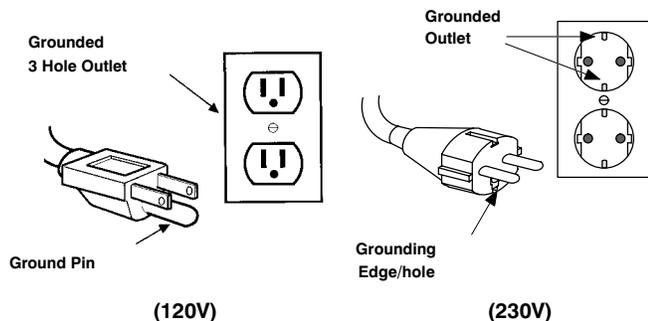

FIG. 18
5. With charger disconnected from machine, plug charger's power cord into a grounded wall outlet (Figure 18).